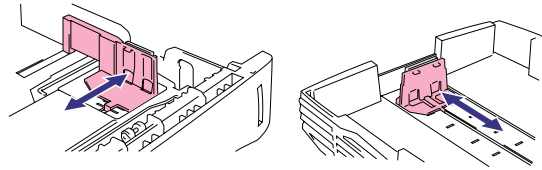

Fig. 2-3
- (1) Pull the paper cassette completely out of the printer.
- (2) Slide the adjusters to the paper size you want until they snap into a slot. (Fig. 2-3)